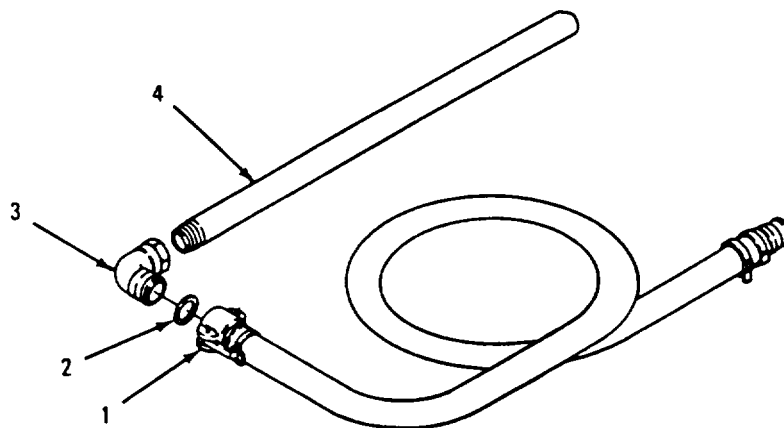

Figure 4-5. Drum Suction Stub Unloader Assembly
a. Removal. (Refer to Figure 4-5)
- (1) Swing coupling (1) levers outward 180 degrees and remove hose coupling (1) from 90-degree elbow (3).
- (2) Remove and discard gasket (2).
- (3) Remove 90-degree elbow (3) from suction unloader stub (4).